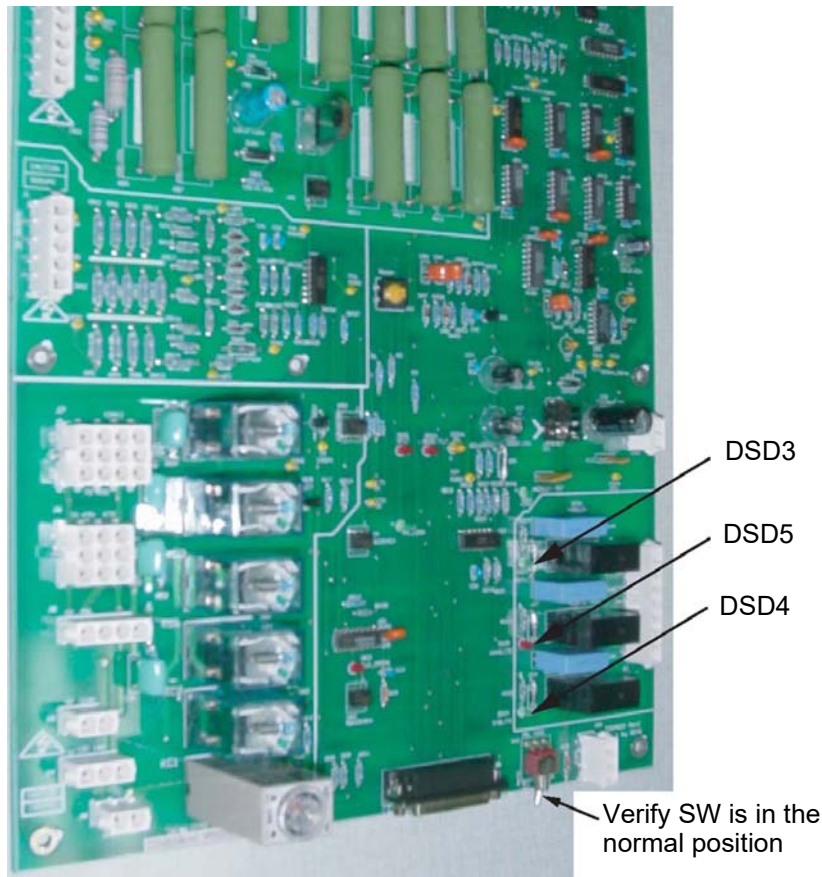

Figure 4-22 NGPDU Control Board
- 2.) When the system is powered, three lamps should be "ON". (Refer to Figure 4-22.)